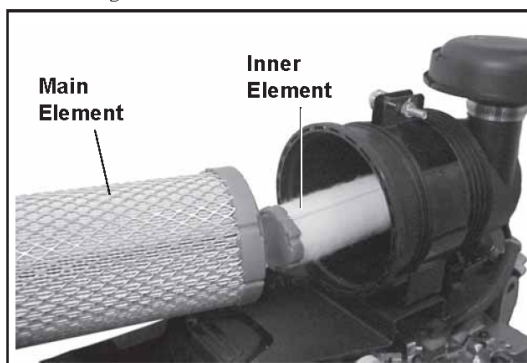

Figure 12. Removing Elements.
2. Pull the air cleaner element out of the housing. See Figure 12.